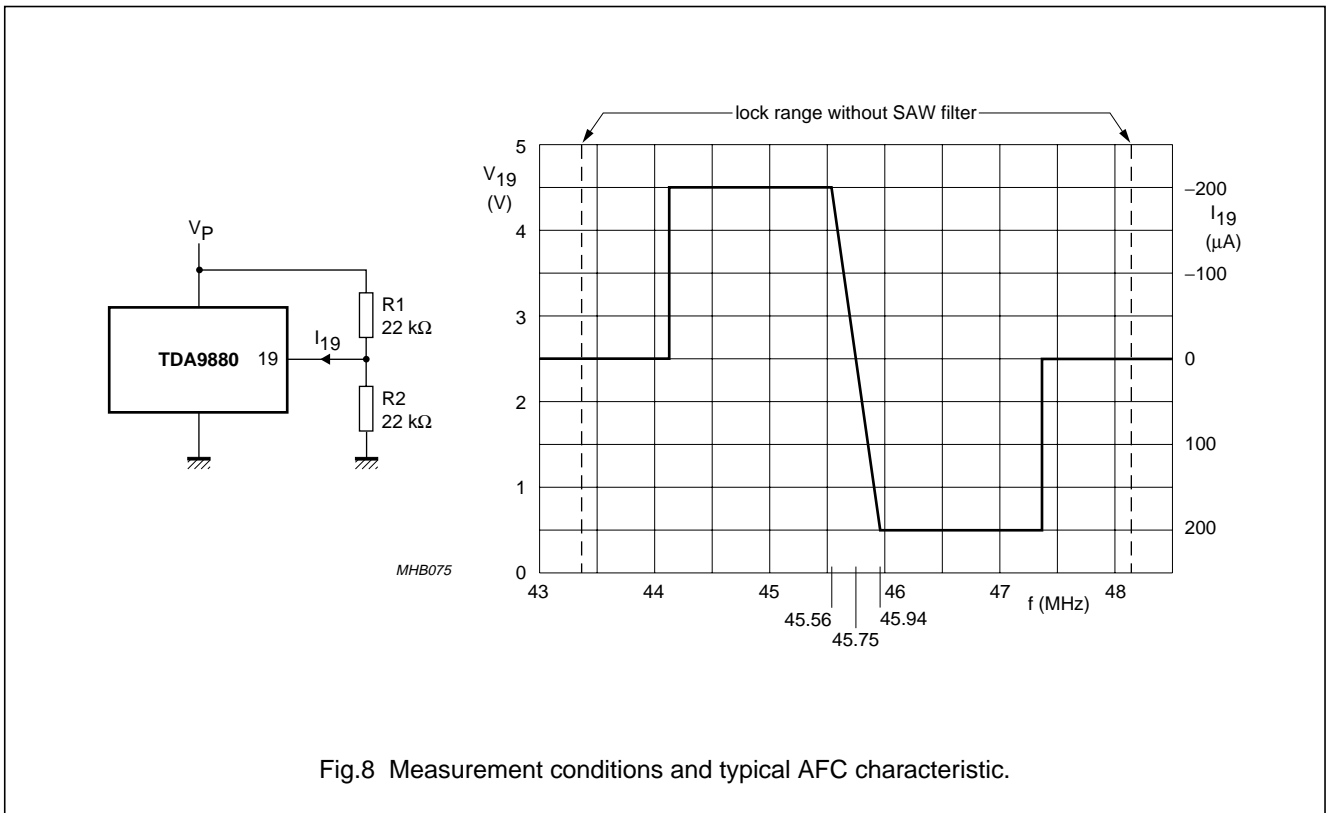

Fig.8 Measurement conditions and typical AFC characteristic.
14. To match the AFC output signal to different tuning systems a current source output is provided. The test circuit is given in Fig.8. The AFC steepness can be changed by resistors R1 and R2.